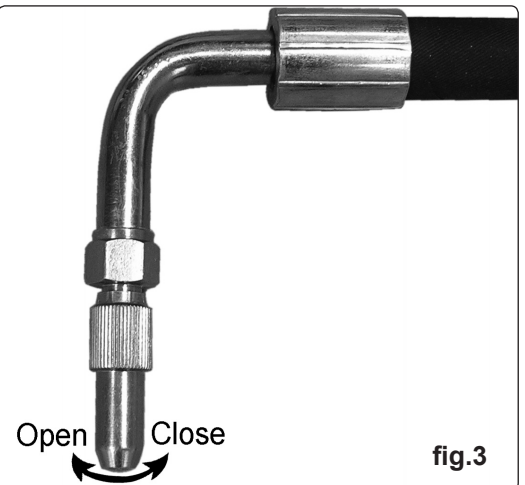

fig.3
4.3.2 With the nozzle pointing into the receiving container, open the nozzle valve as shown in fig.3.